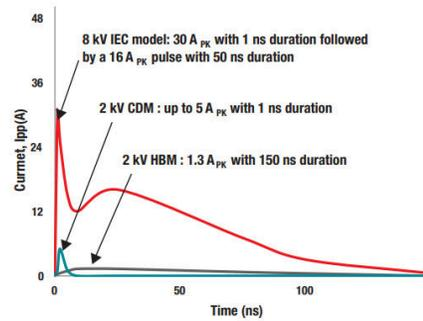

Figure 4. Comparison of ESD test model waveforms
ESD testing is conducted to measure how much electrostatic discharge stress a device or equipment can withstand before becoming inoperable. The JEDEC standard provides device-level tests to model different energy sources, including the human body model (HBM), charged device model (CDM), and machine model (MM) – waveforms for which can be seen in Figure 4. IEC 61000-4-2 offers a similar standard test for equipment-level tests. These standards model high-current, short-duration strikes to represent the characteristics of a real discharge event. Each test is conducted up to a peak test voltage to characterize the level a device or system